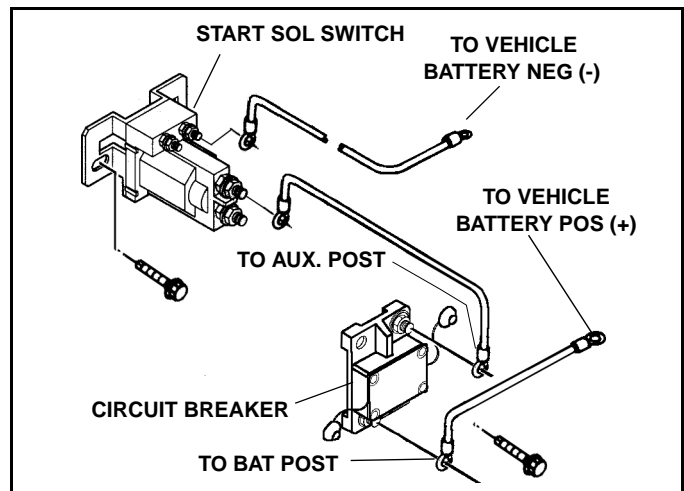

Figure 3
6. Attach one of the 2' long Red battery cables to the Aux. Post of the circuit breaker and one of the large terminals of the start solenoid switch. (See Figure 3)
8. Position the start solenoid switch close enough for the remaining negative lead on the solenoid to reach the vehicle battery NEG (-) comfortably, and mount it with two (2) 1/4" x 1" self-tapping screws.
9. Mount the circuit breaker with two (2) #10 x 1" self-tapping screws.